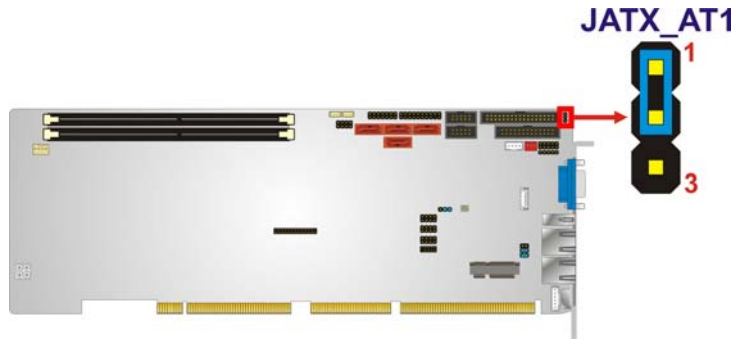

Figure 4-7: AT/ATX Power Mode Jumper Location
- Jumper Location:** See **Figure 4-7**